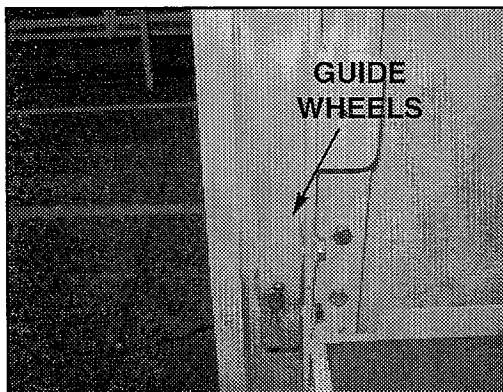

Figure 19
1. If needed, you can remove bolts and shim out guide wheels. See Figure 19.